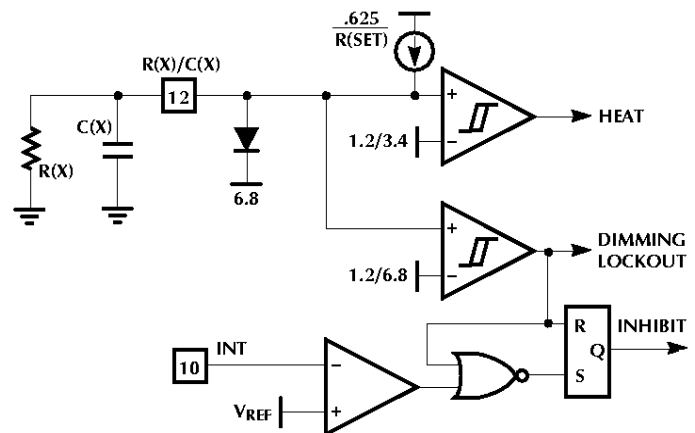
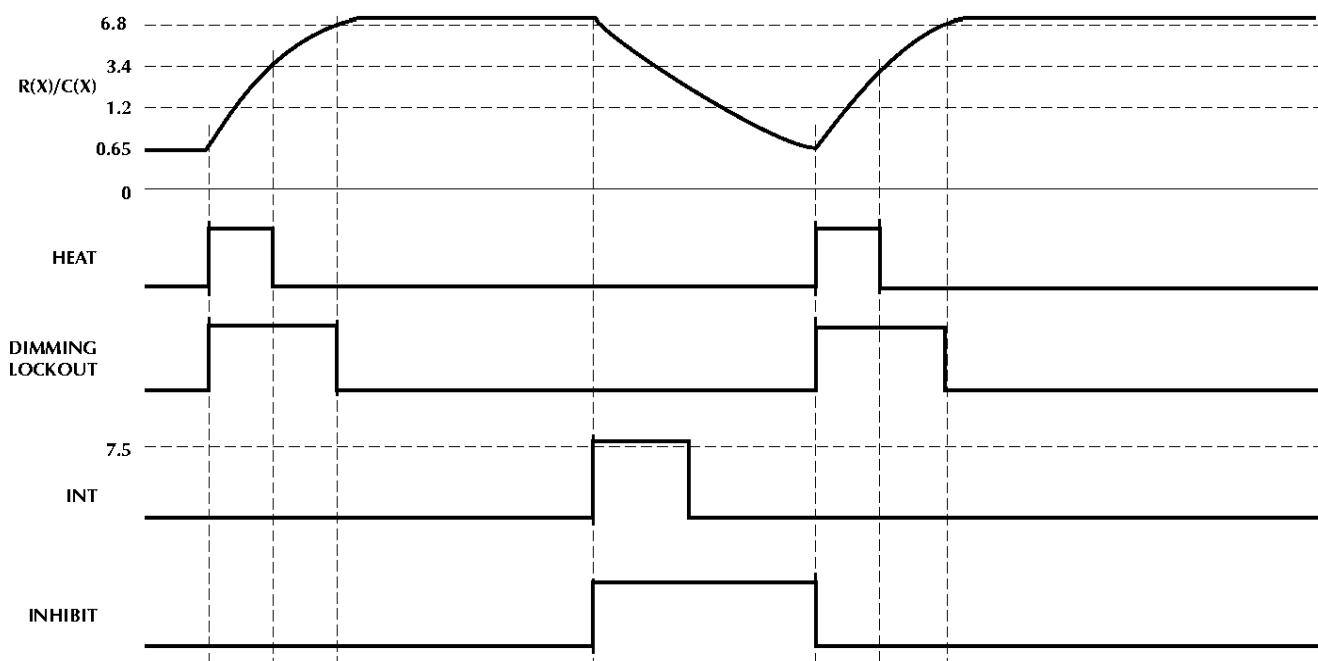

Figure 4. Lamp Preheat and Interrupt Timers
Figure 7. Lamp Starting and Restart Timing
The circuit in Figure 4 controls the lamp starting scenarios: Filament preheat and Lamp Out interrupt. C(X) is charged
A timing diagram of lamp ignition and restart sequences provided by the circuit of Figure 4 is given in Figure 7.